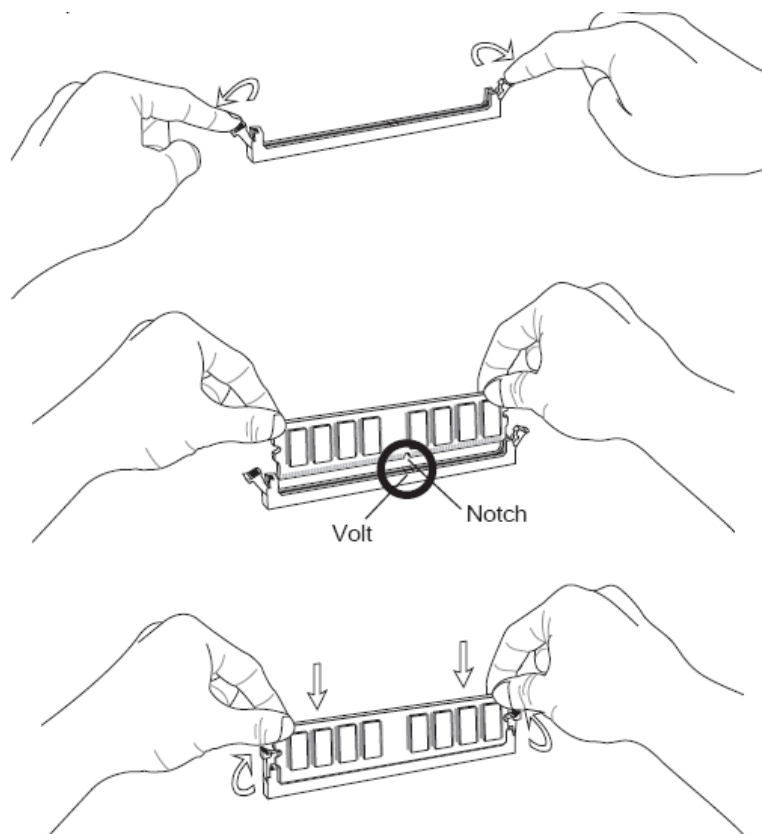

Figure 22: Memory Installation
2. Rotate the socket lever to lift the load plate away from the socket (Figure 22, A). Make sure that the load plate is in the fully open position (Figure 22, B) while being careful not to damage adjacent components. Do not touch the socket contacts.